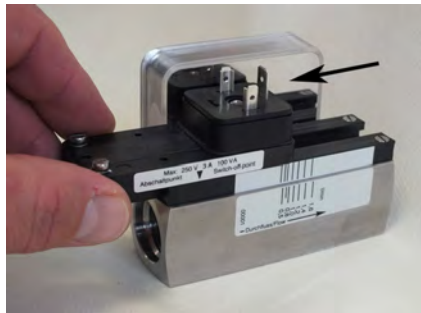

Fig. 70: Remove switch contact from guide rails
4. Slide the switch contact in the direction of the arrow (Fig. 70) from the guide rails